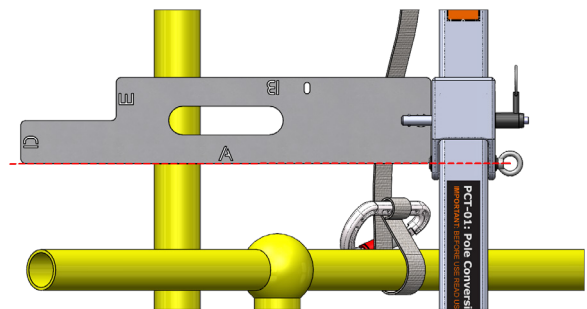

Fig 9
- Using the marking tool, check that the PCT centre hinge point is in line with the cut mark (top cut mark if two were marked in step 1). (Fig 9)